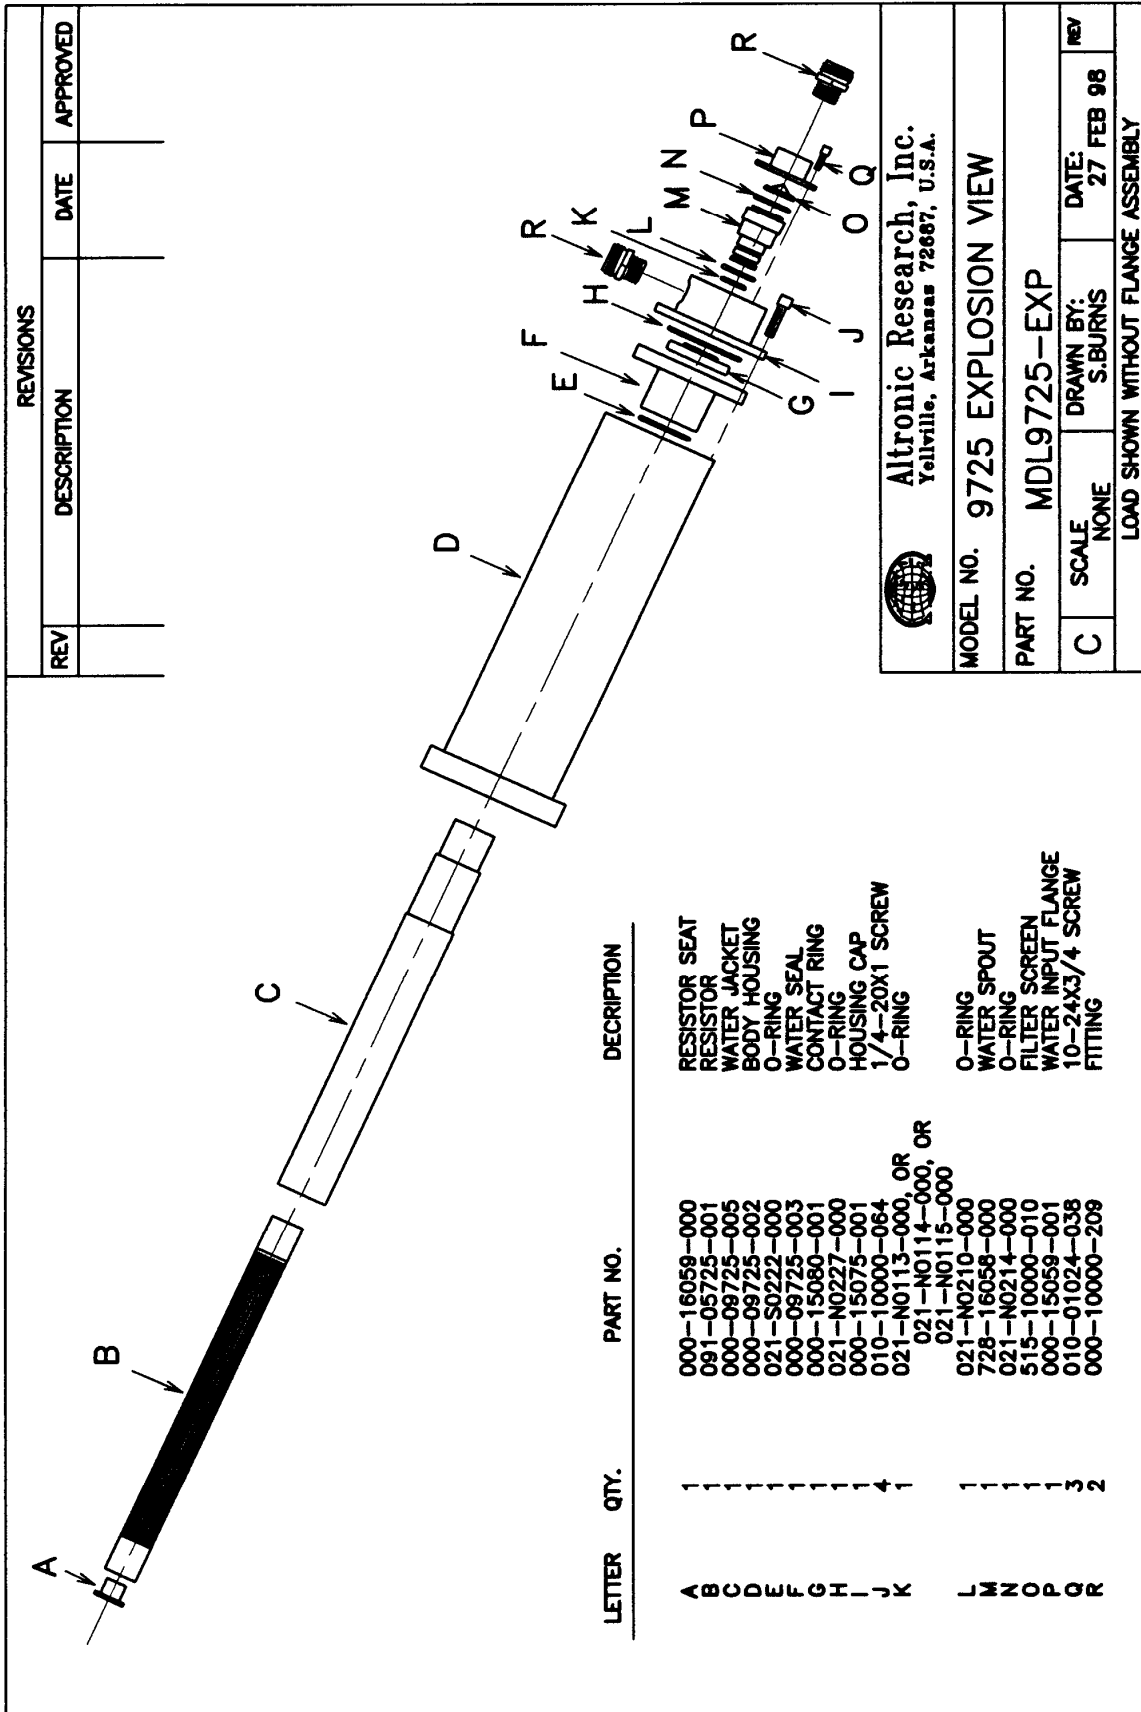
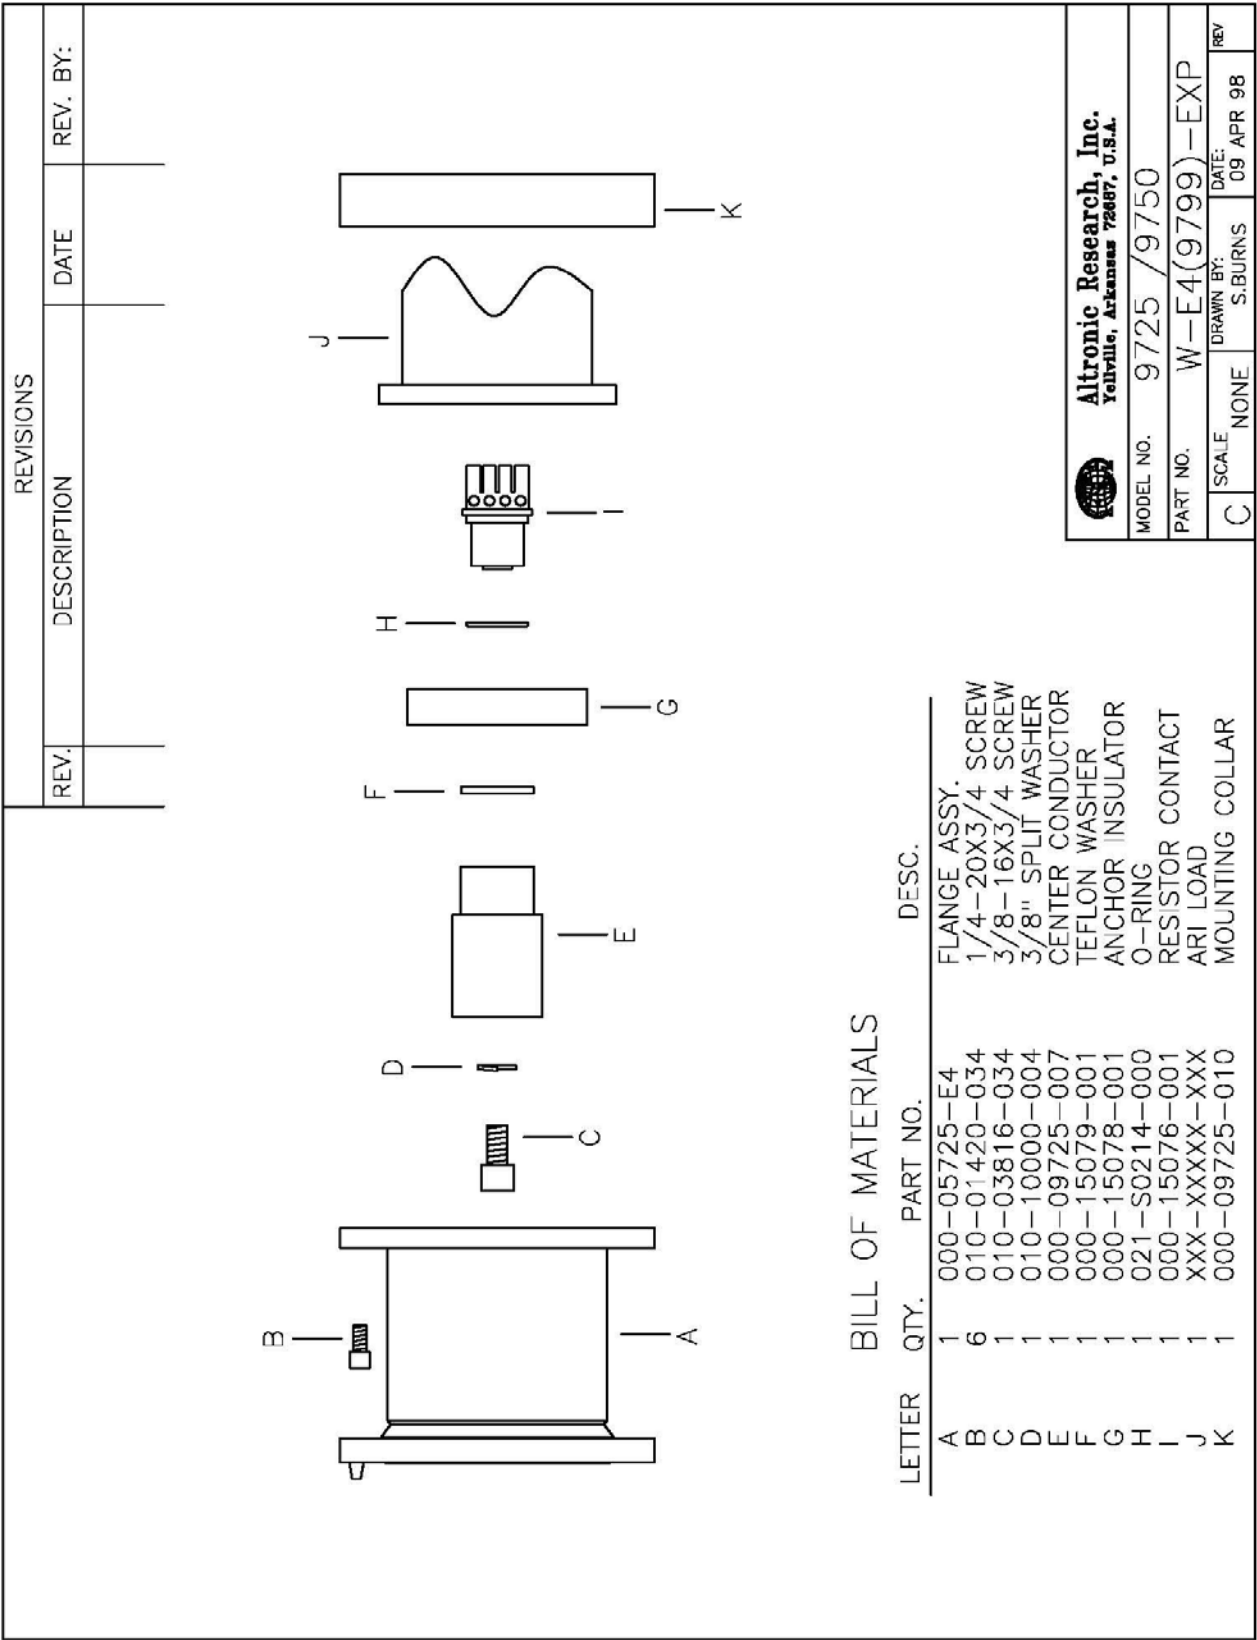

Fig. 14
Fig. 15
4. **Resistor Replacement** - (Refer to Fig. 14) To replace the resistor element, remove the three 10-24x1-3/8" cap screws (item Q). Remove water input assembly (items O, P, and R). Inspect filter screen for damage, replace if eroded or torn. Remove four 1/4-20x1/2 cap screws (item J). Remove housing cap assembly (items G, H, I, R, K, M and N). Inspect all O-rings for distortion or damage. Replace if pinched, cut, burned or no longer round in cross section. Inspect ring contact (item G) for signs of arcing or loss of silver in the
- 5. Removal of RF Input** - To remove the RF input line adapter flange, remove six 1/4-20 x 5/8" socket head screws (item B, Fig. 15) that secures the line adapter flange and mounting ring (items A & K, Fig. 15) to the load body housing (item D, Fig. 14). The RF input assembly consisting of the center conductor, anchor insulator and front resistor contact (Fig. 15, items C, D, E, F, G, H & I) will normally remain in the load body. Grasp the center conductor by hand and attempt to pull the input assembly out of the load body using slight side to side motion while pulling. If strong resistance is encountered, it may be necessary to chill the load to allow the anchor insulator to shrink away from the load housing. This can be done by placing the load in a freezer, or packing the load in ice for 20 to 30 minutes. Once the anchor insulator has shrunk away from the load housing, the RF input assembly should be easily removed. At this point of disassembly, all components of the load can be inspected or replaced as needed. Reassembly should be done in the reverse order of sequence.